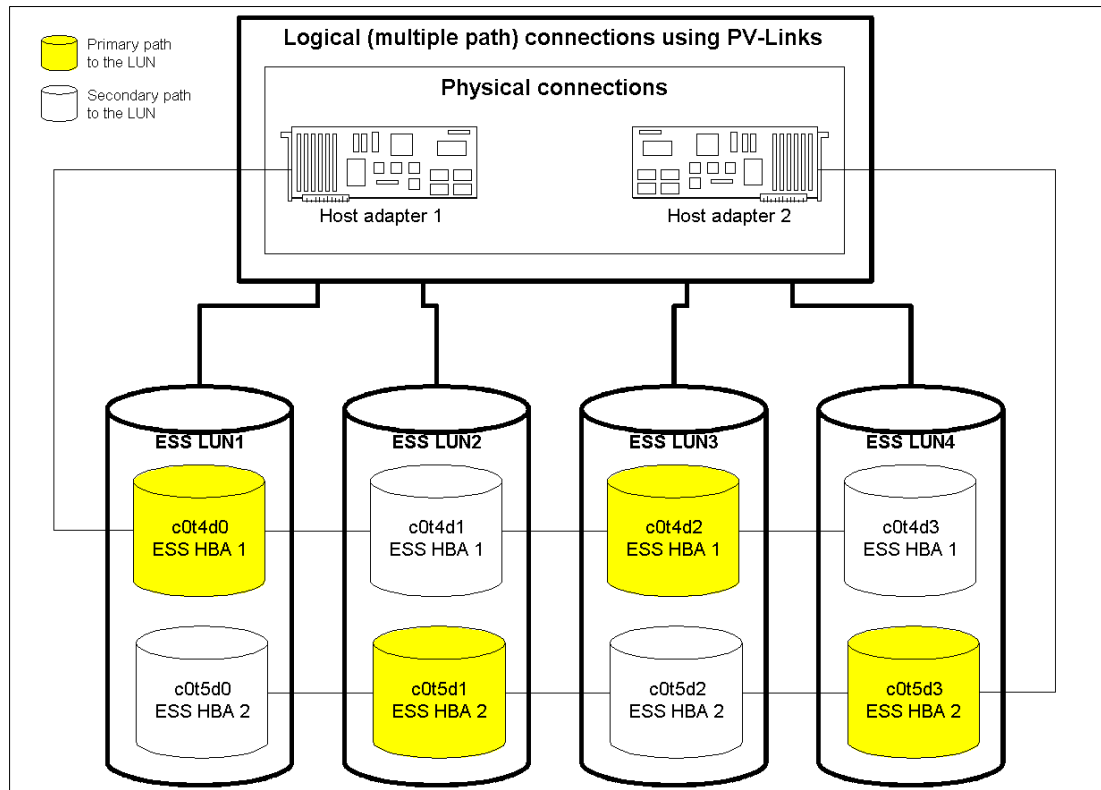
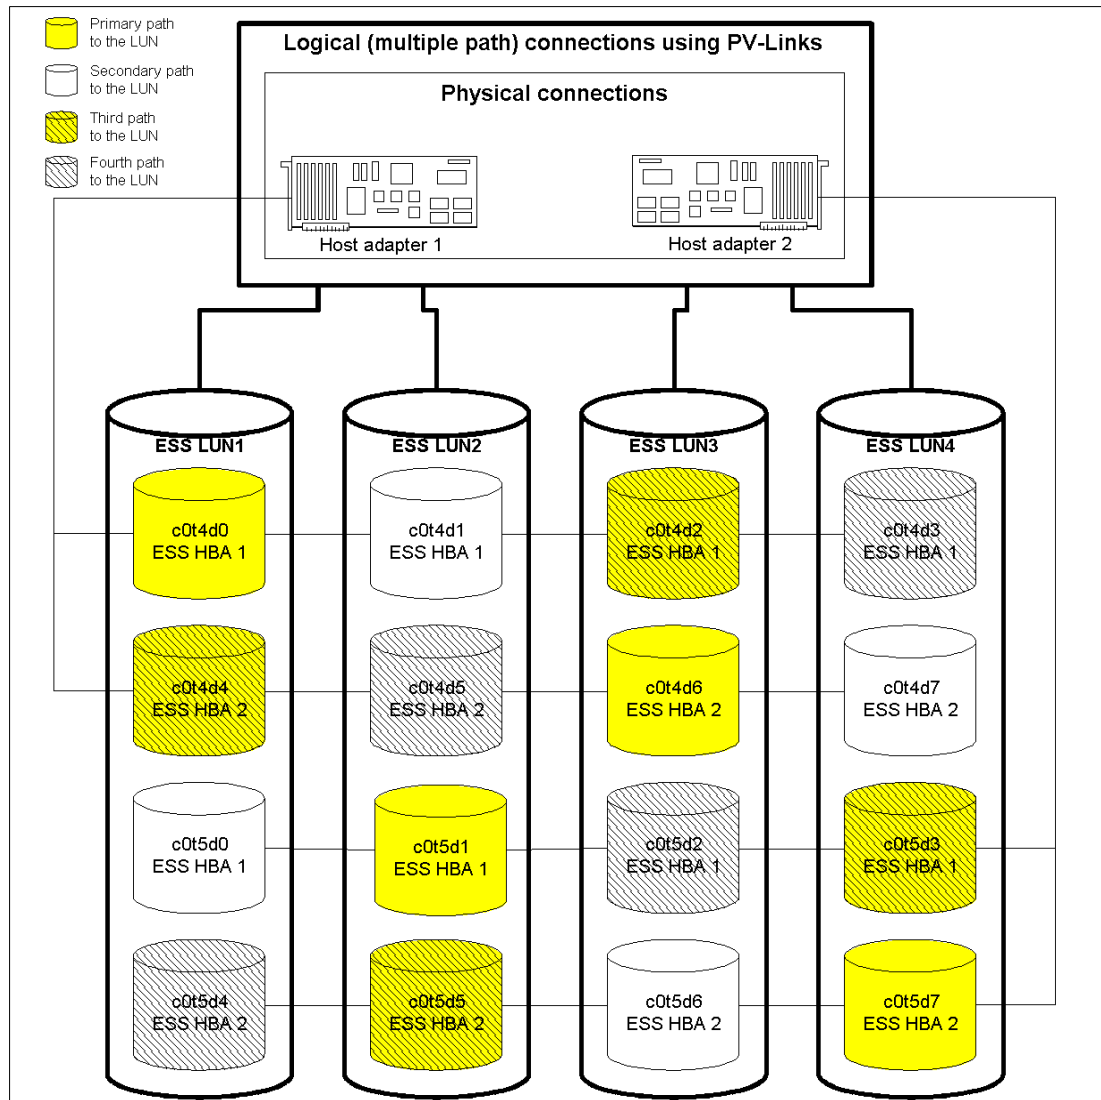

Figure 3-6 Multiple paths connections with PV-Links and two zones configured on the switch
Figure 3-7 Multiple paths connections with PV-Links and one zone configured on the switch
Depending on how zoning is configured on the switch, we may get the following two results (as shown in Figure 3-6 and Figure 3-7):
- ▶ In the case of two zones configured on the switch (see Figure 3-6):
- In the case of one zone configured on the switch (see Figure 3-7):
Statistically, in both cases we get 50% of total system disk load for each of two adapters in host system. This may differ of course in particular installations and depends on the applications that generates the I/O traffic. Because only static load balancing is possible with PV-Links (the HP-UX operating system is unable to use PV-Links for dynamic load balancing), when significant differences occur between demands of applications generating disk I/O, we recommend for you to redesign as shown in Figure 3-6 and Figure 3-7. As examples of symmetrical implementation of PV-Links to asymmetric configuration, consider real I/O rate and number of I/O requests (both read and write) for each of the applications that are in use. Changing the configuration of PV-Links from primary to alternate is very easy, as its managed via the HP-UX LVM: